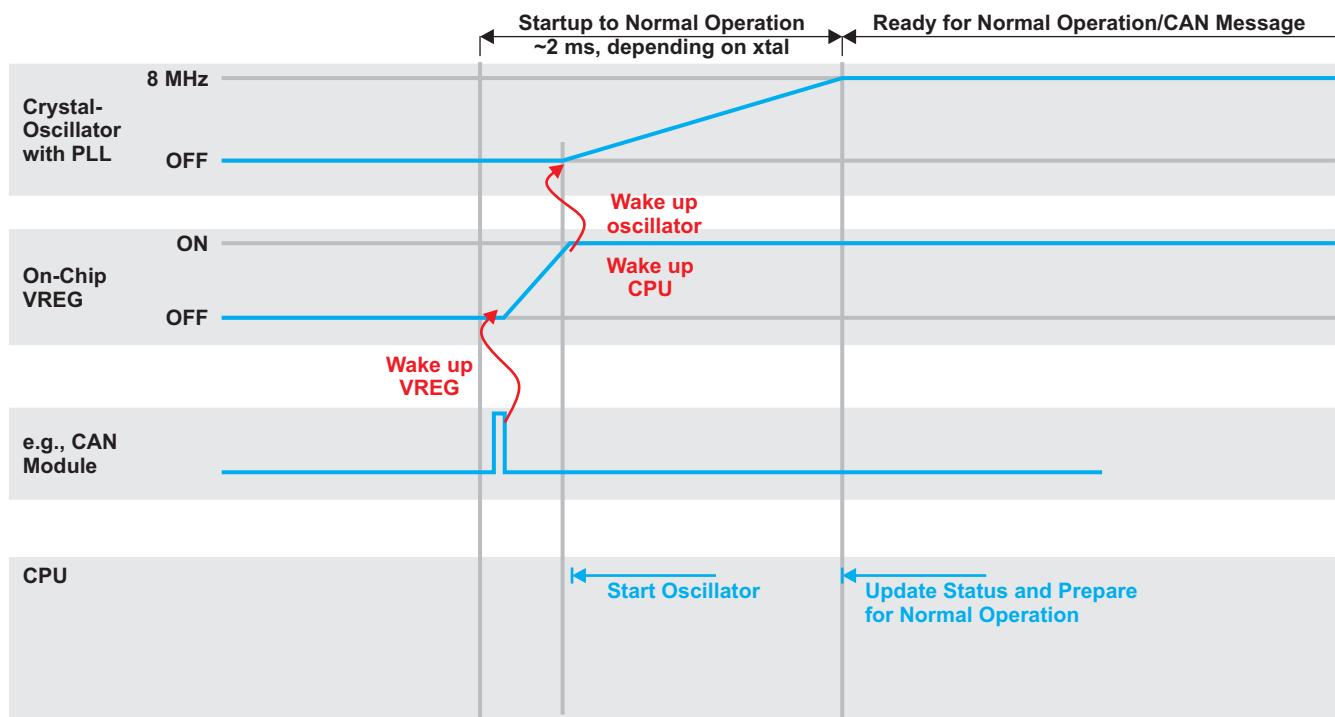

Figure 5-4. Wake Up From Sleep Mode
1. Wake-up request is received/generated. Figure 5-4 shows the CAN module generating the wake-up interrupt based on a message received.